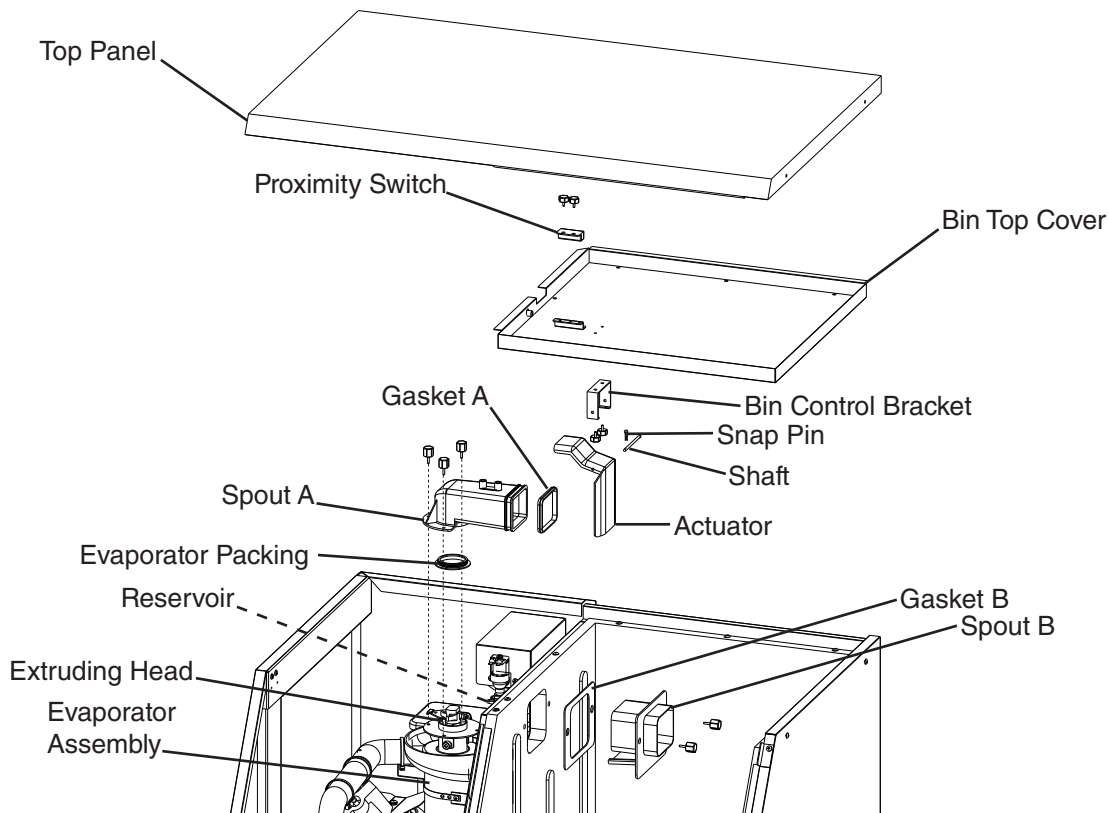

Fig. 8
- 6) Remove spout B and gasket B, then remove spout A, and gasket A. See Fig. 8.